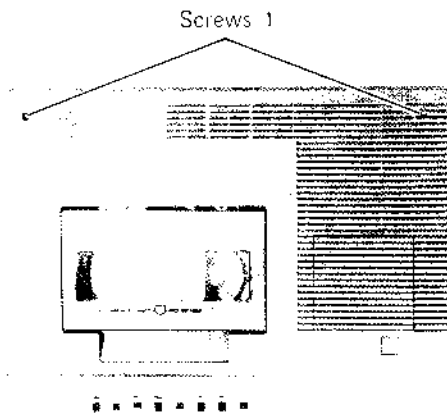

Fig. 4-1
1. Remove the two screws 1 on the top cover as shown in Fig. 4-1. Then lift the top cover.